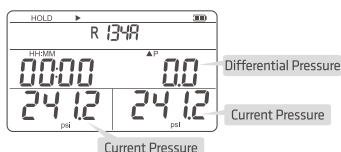

FIG.6 Stop the Pressure Holding Test Interface
4. After the pressure holding test is carried out for a period of time, press the **▶||** button briefly to terminate the test (the **▶** icon is displayed)[FIG.6].